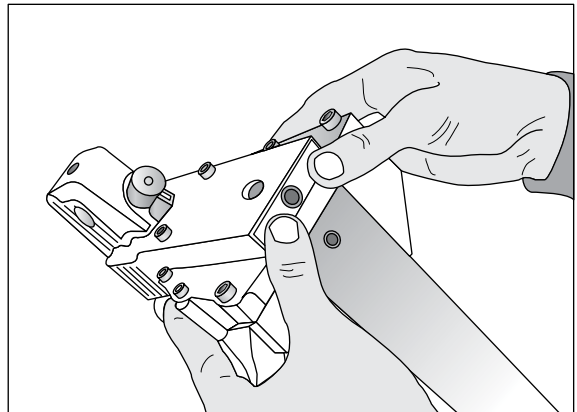

Figure 7
2. Push the body up and adjust to the desired depth. (See Figure 7)